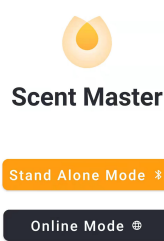

Figure 1
- (1). Scan the QR code of the cover or search the "Scent Master" app in the app store to download and install.
- (2). Open the app homepage interface, click [online Mode] (Figure 1)